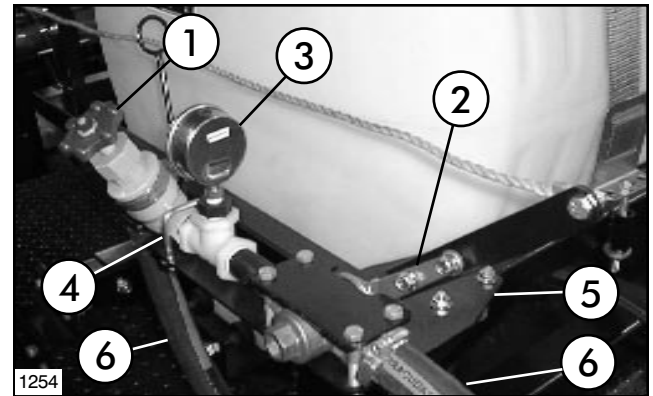

FIG. 9
**2.** Apply thread sealer and install the 3/4" x 90° elbow and 3/4" x 1" hose barb into the inlet port of the Pressure Adjust Valve. See FIG 9.
**5.** Attach Valve Plate Top to Valve Plate over Ratchet Valve, as shown in FIG. 9, using (4) 5/16" x 2-1/2" cap screws and flange nuts.
**6.** Hook (1) U-Bolt over outlet port of Pressure Adjust Valve and through Valve Bracket. Secure using (2) 5/16" flange nuts. See FIG. 9.